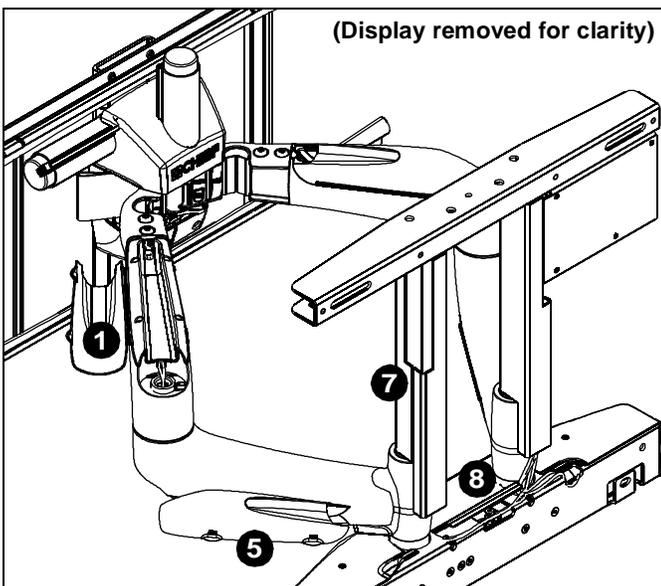
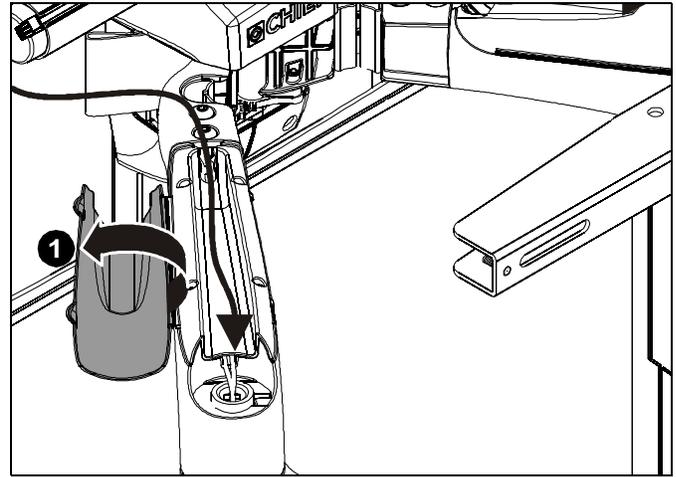
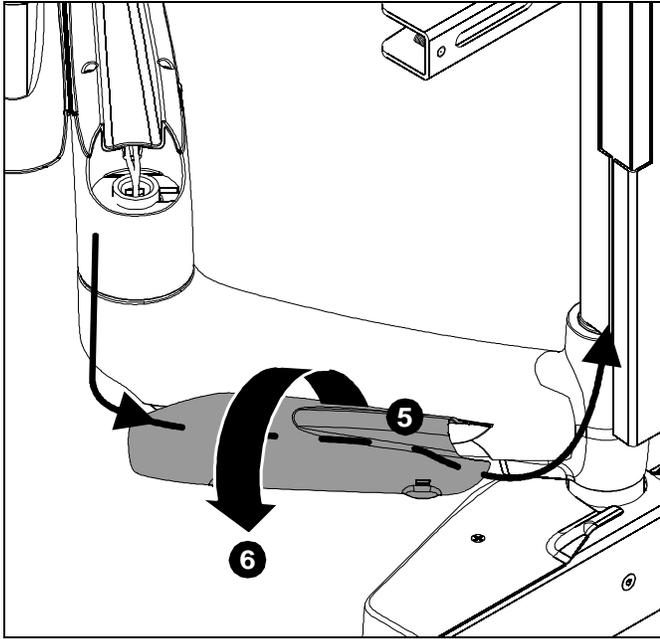
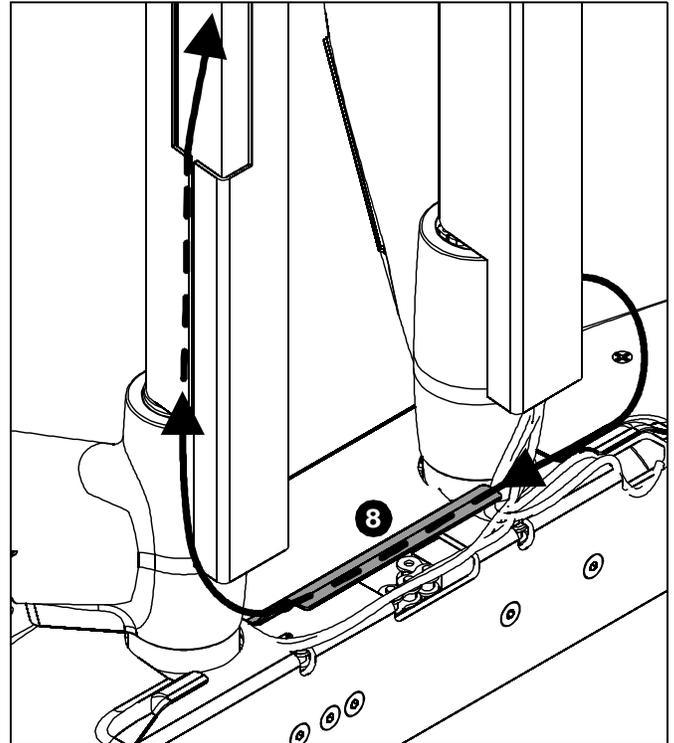

Figure 34
Figure 35
Figure 37
Figure 39
NOTE: Available points of cable management are illustrated (See Figure 34) and specifically called out in the following instructions and figures.
- Open cable management covers on top of both PXR arms. (See Figure 34) and (See Figure 35)
5. Open cable management covers on bottom of both PXR arms and lay cables within arms. (See Figure 34) and (See Figure 37)
6. Close cable management covers, being careful to not pinch cables under covers. (See Figure 37)
8. If necessary, use cable management flap on PXR base to route cables from left arm to PXR right side. (See Figure 34) and (See Figure 39)